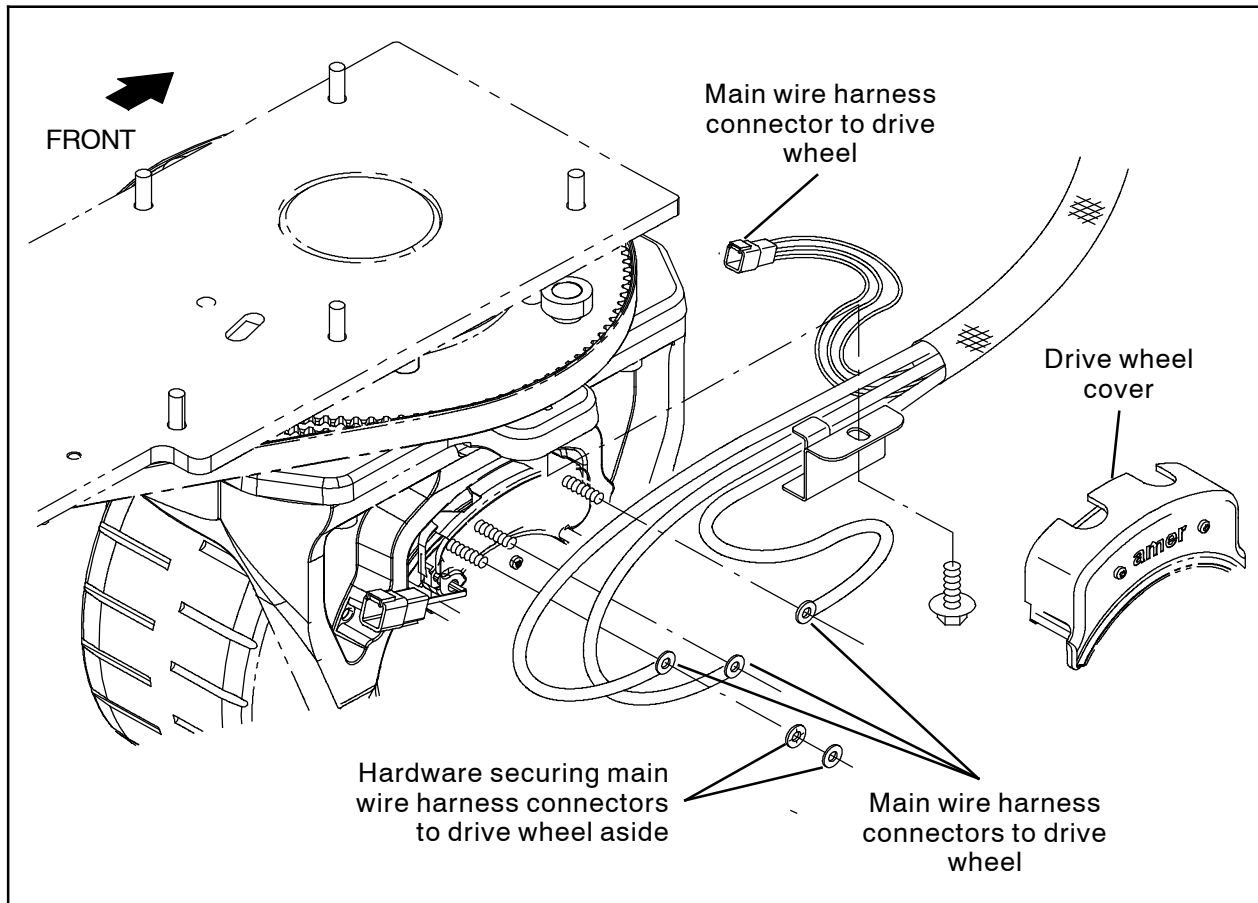
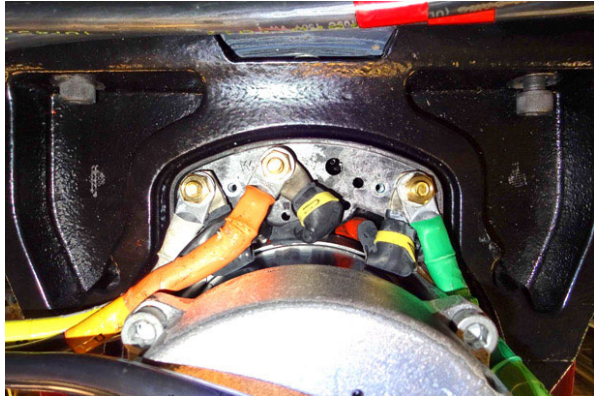
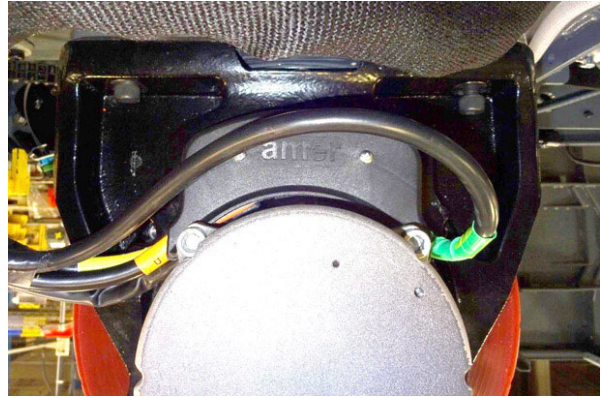

FIG. 1
FIG. 4
FIG. 5
1. Remove the cover from the drive wheel. Discard the cover and mounting hardware. (Fig. 1)
2. Disconnect all main harness connectors from the drive wheel. Note locations of nuts and washers securing the main wire harness connectors to the drive wheel. Nuts and washers must be arranged the same when connecting the main wire harness to the new drive wheel (1). (Fig. 1)
9. Remove the cover from the new drive wheel (1). Set the cover and mounting hardware aside. (Fig. 1)
10. Remove hardware necessary to connect main wire harness connectors to the drive wheel (1). (Fig. 1)
16. Connect all main wire harness connectors to the drive wheel (1). Position/route cables exactly as shown so drive wheel cover can be installed in the following step. (Fig. 4/Fig. 1)
Arrange the hardware securing the main wire harness to the drive wheel exactly the same as it was when removed from the old drive wheel. Discard unneeded hardware. (Fig. 4/Fig. 1)
17. Install the drive wheel cover onto the drive wheel (1). (Fig. 5/Fig. 1)